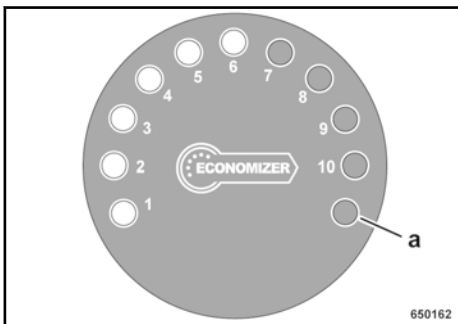

Fig. 73
The increasing number of yellow LEDs (1) - (10) ↘ Fig. 73 lighting up indicates the increase in compaction.